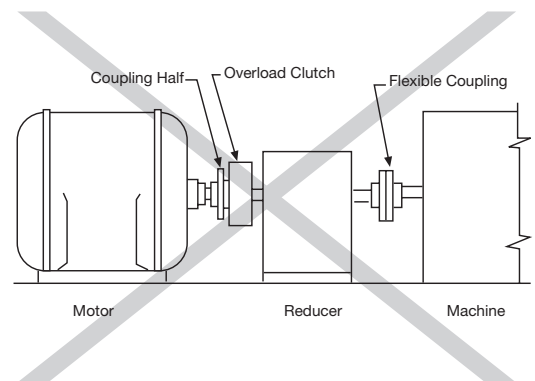
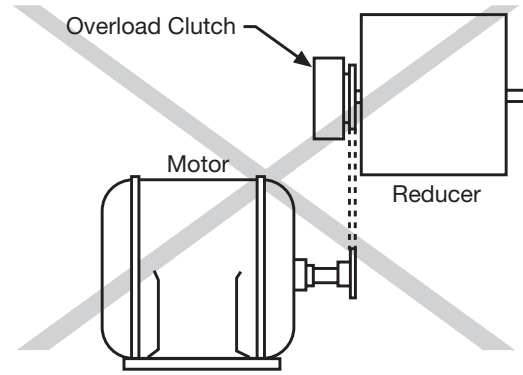

Figure 10
Figure 12
b. Locating the clutch as shown in Figure 10 is not preferred. Here the clutch is mounted on the high-speed side of the reducer. Generally, mounting in this manner requires the clutch to be hypersensitive to perform satisfactorily.
b. The mounting location in Figure 12 is **not preferred** for the same reasons as those for Figure 10. Always consult the factory when a mounting of this type is necessary.